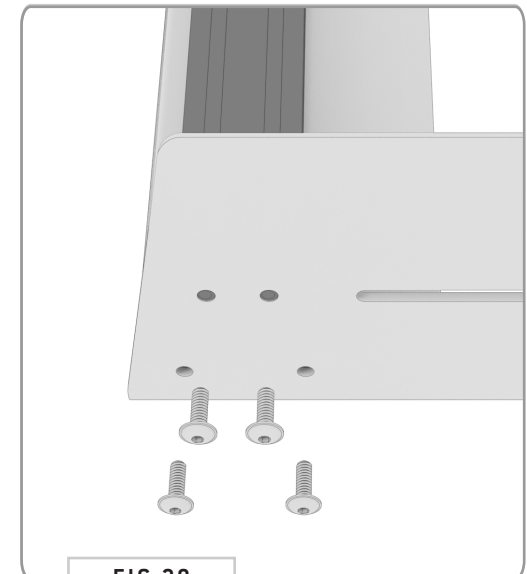

FIG 20
6.3 Fairing Install: Now you're ready to attach the Rear Spoiler to the roof rack. Slide it in from the back and into the location shown in FIG 20 and tighten down using (8) 1/4-20" Flange Head Screws.